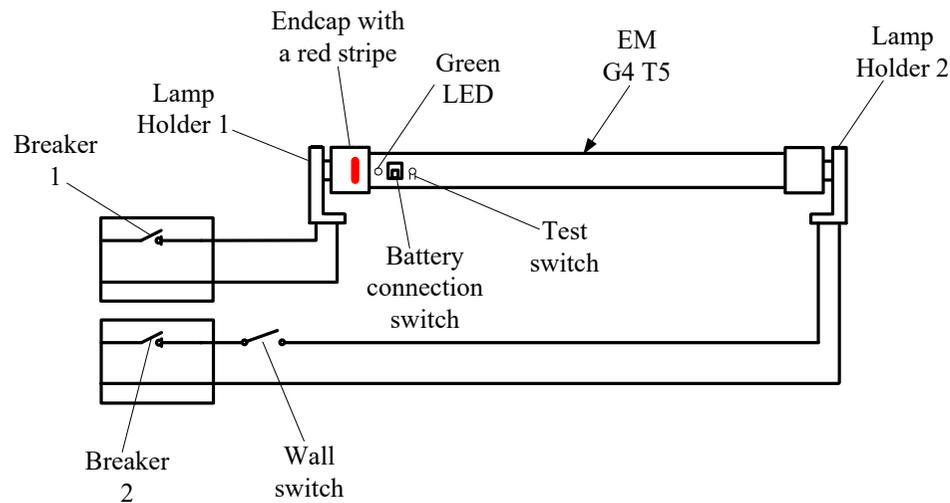

Fig. 1
6. Install the non-shunted lamp holders provided with the aleddra's emergency G4 LED T5 lamp retrofit kit into the fixture: Refer to wiring diagram in Fig. 1.